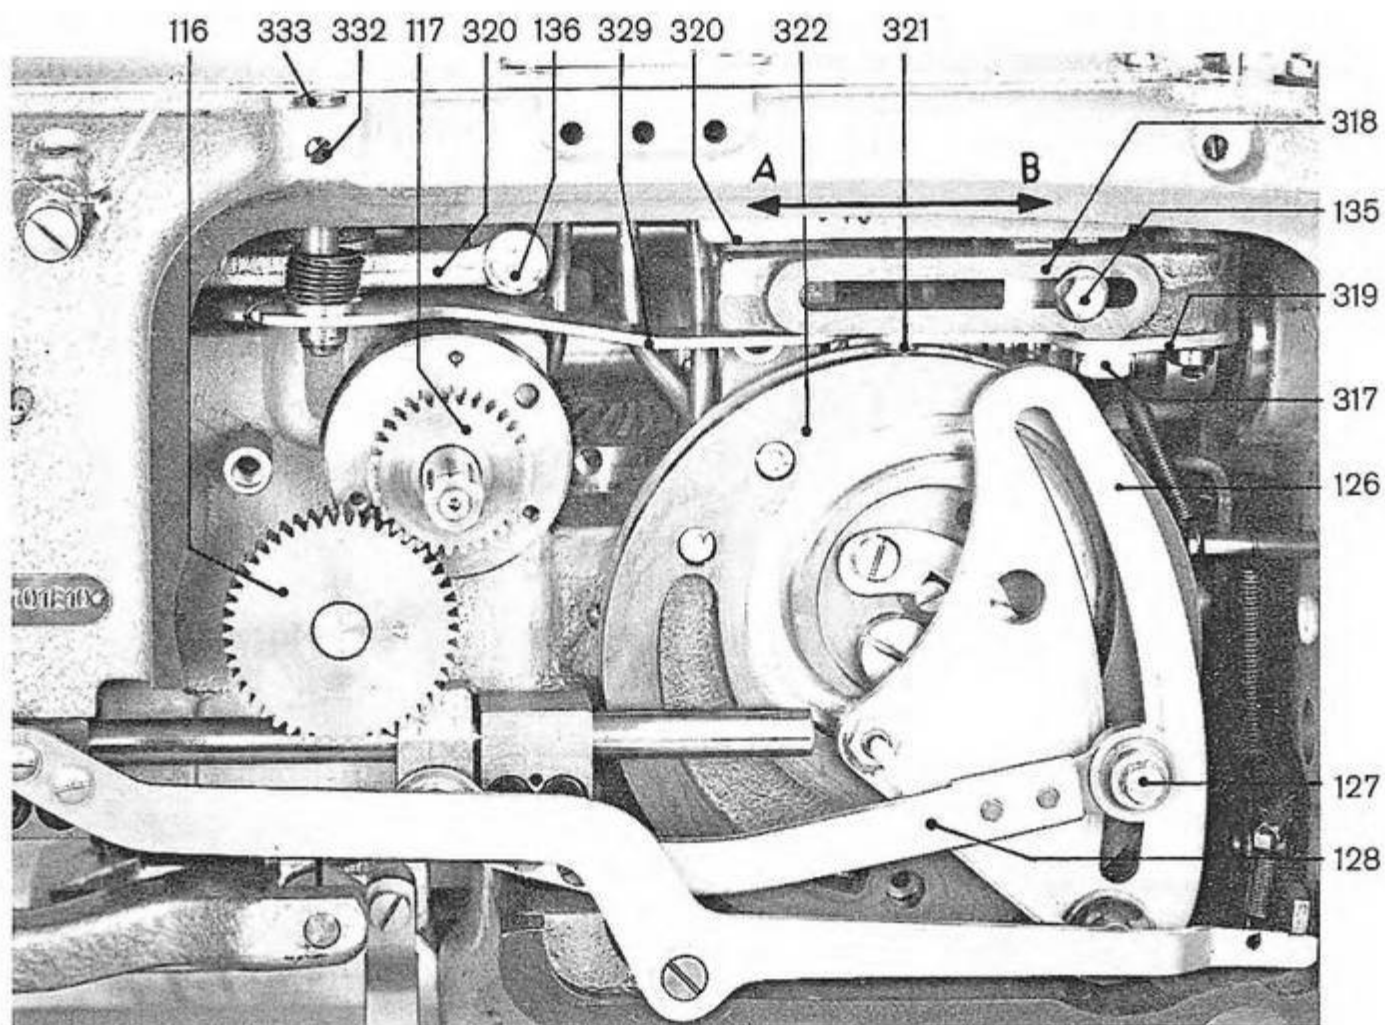
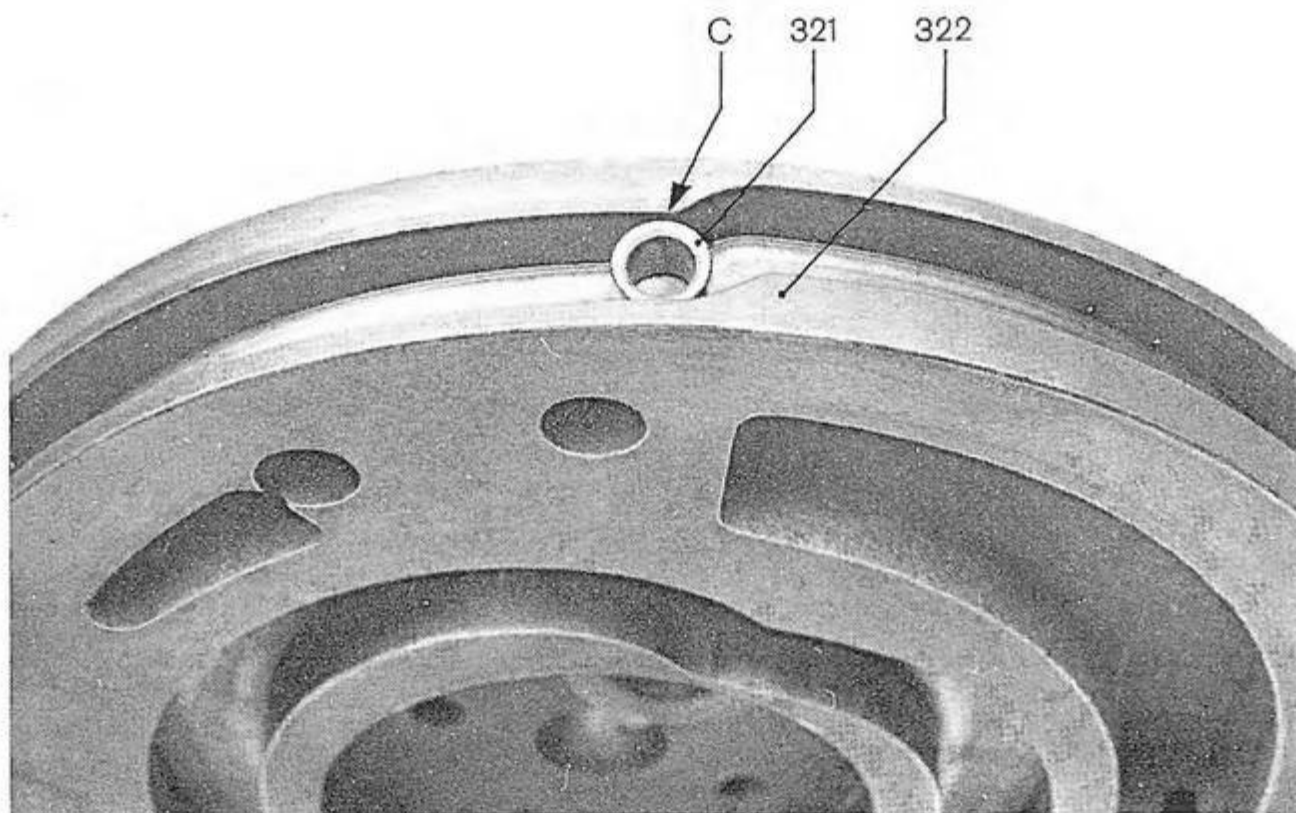
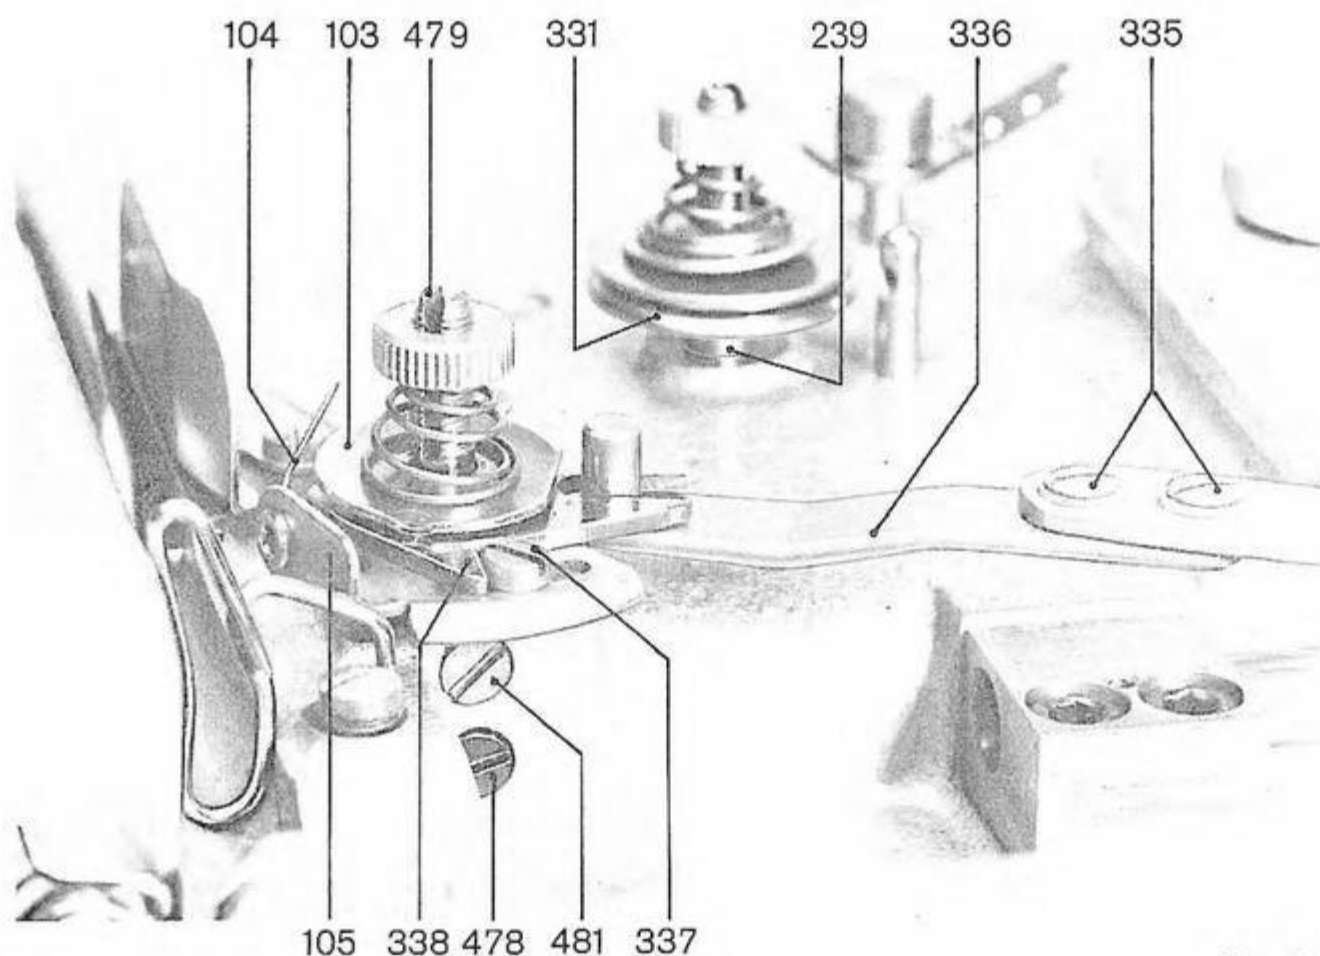

Fig. 69
Fig. 73
Fig. 75
If this is not the case, loosen the screw 317 (fig. 69) and displace the crank 318 with respect to the roller lever 319 as required.
3. Turn the crank until the machine is in the position in which the roller 321 (fig. 69) of the stitch position crank stands short before the first lip (point B).
5. Turn the clutch disk in the direction of rotation until the machine and the cam 322 are in the position in which the stitch position lever 320 and the stitch position coulisse 319 (fig. 69) have finished their motion to the right, i.e. in which the roller 321 stands at the point C. See fig. 73.
In this position, the distance between the back of the rear tension disk 331 (fig. 75) and the collar of the tension axle 332 should amount to about 1 mm. This adjustment can be obtained by turning the eccentric bearing bolt 333 after having loosened the stud 332 (fig. 69). After turning said stud check whether the tension releasing lever 329 can still be moved easily.
This adjustment can be obtained by resetting the releasing lever 336 after having loosened the screws 335 (fig. 75).
Normally, the thread puller 105 (fig. 75) should be adjusted in such a way that with the machine engaged the distance between the head of the screw 337 and the lug 338 of the tension releasing plate ranges from 1 to 2 mm.